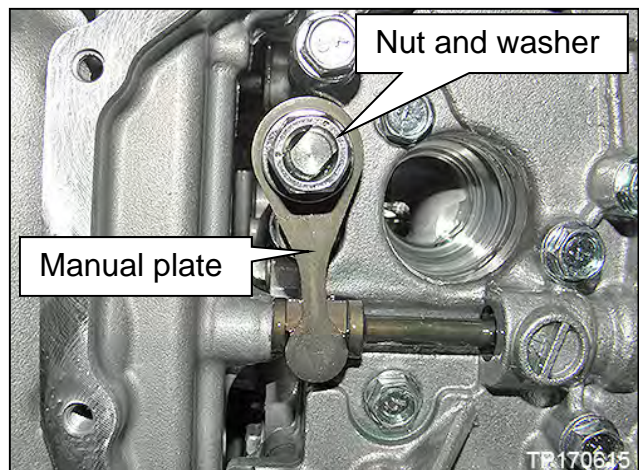

Figure 4
8. Remove the nut and washer, and then remove the manual plate shown in Figure 4.